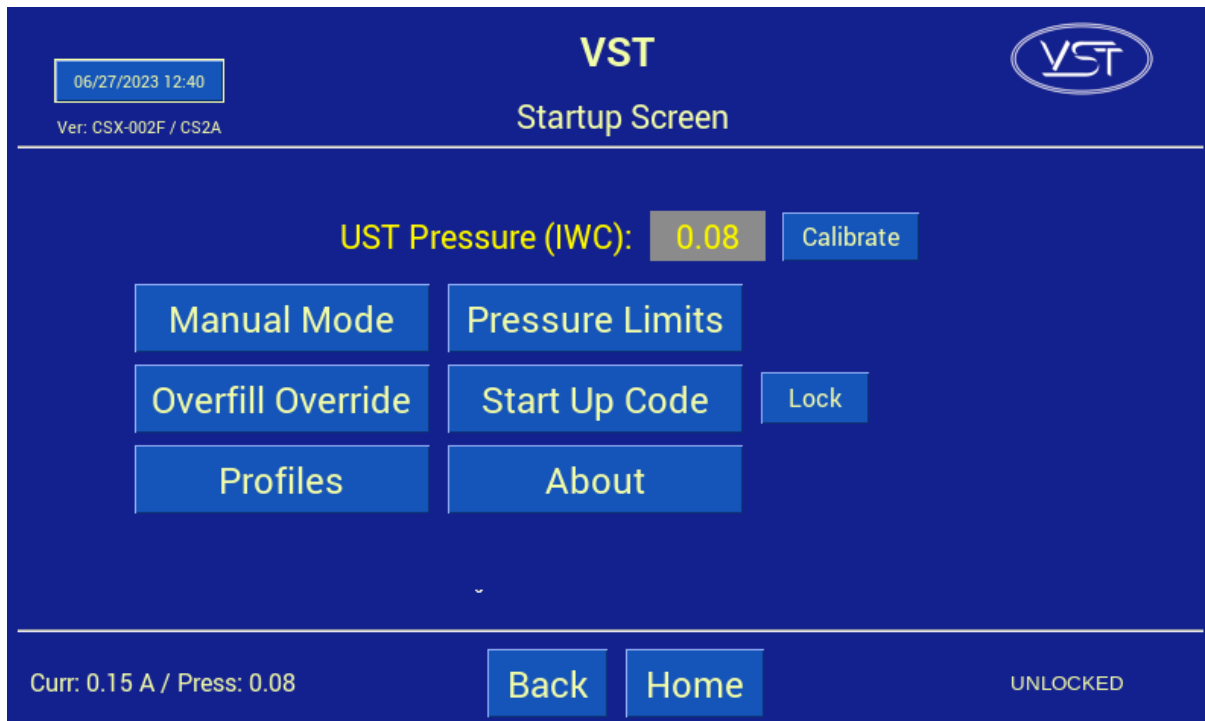

Figure 6-9: Startup Screen
- To manually override the Overfill Alarm once the test is complete, navigate to the Startup Screen. **See Figure 6-9.**
7. Push the “Startup Code” button. **See Figure 6-9.**